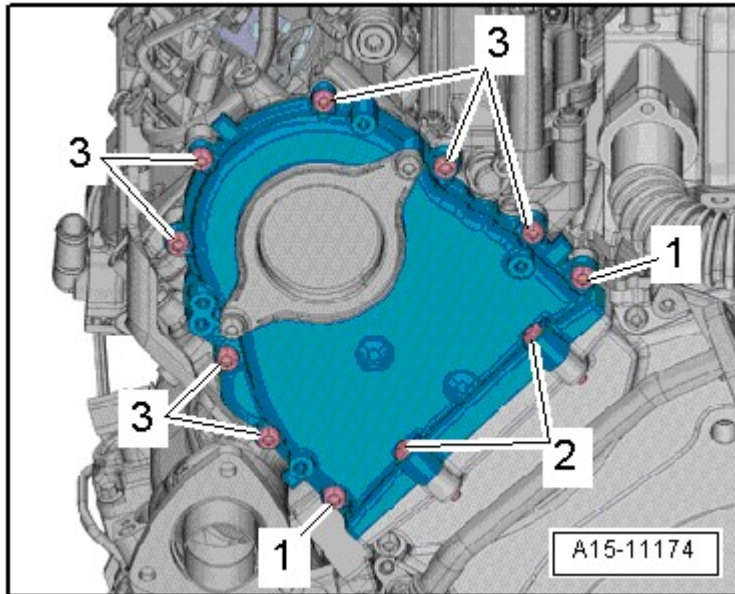

Fig. 9: Identifying Left Timing Chain Cover
- Tightening specification and sequence, refer to **Fig. 9**